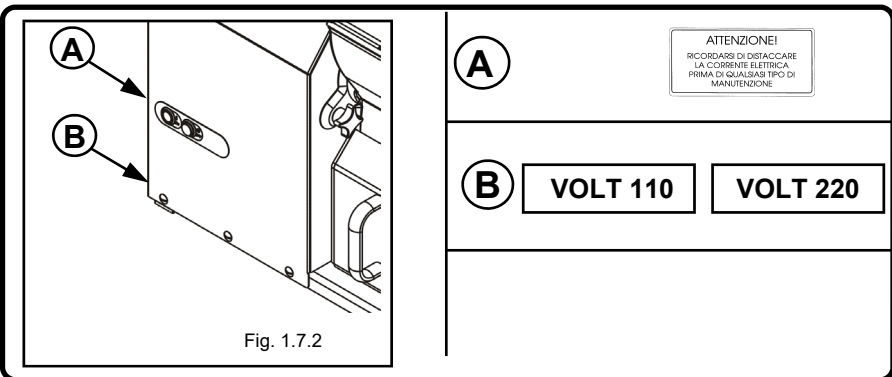

Fig. 1.7.2
**1.7.1 - Warning and danger signs (Fig. 1.7.2)**